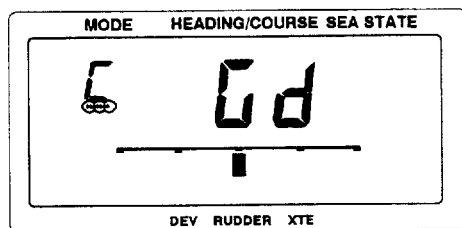

Fig. 6-4 Indication after clearing the memory
- When the memory has cleared the display looks like Fig 6-4.